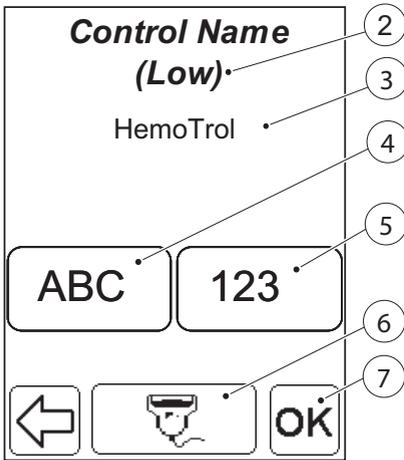
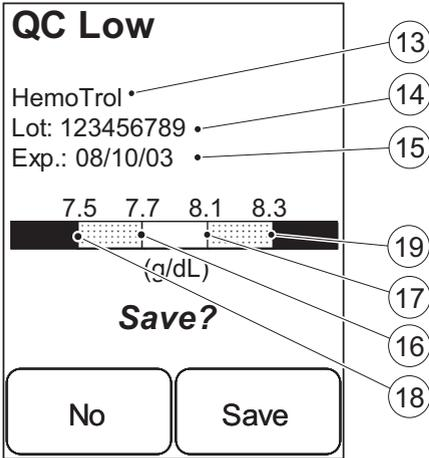

FIGURE 4-8
FIGURE 4-12
- a) To choose the Liquid Control specification that is to be viewed/changed, highlight the Liquid Control specification by pressing the Scroll bar arrows (1). Press the View button (2). By pressing repeatedly on the confirm button *FIGURE 4-8* to *FIGURE 4-12* will be displayed. Press the Save button to store any changes made and return to the Liquid Controls List.